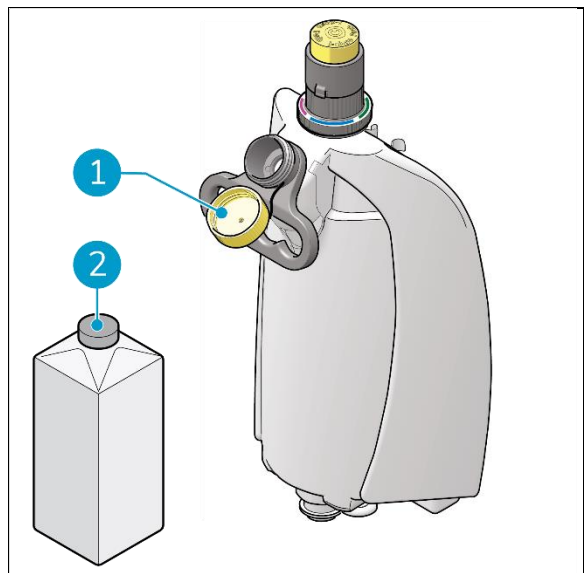

Figure 18
1. Remove the yellow cap (Figure 18, pos. 1).
2. Pour in a maximum of 1 gal / 4 L of water (Figure 18, pos. 2).
3. Put back the yellow cap (Figure 18, pos. 1) and make sure it seals tightly
8. Press the i-dose injector button (Figure 18, pos. 5) to dispense the contents of the i-dose pod.
9. Turn the indicator ring so that the color corresponding to the i-dose pod is facing towards you (Figure 18, pos. 3).